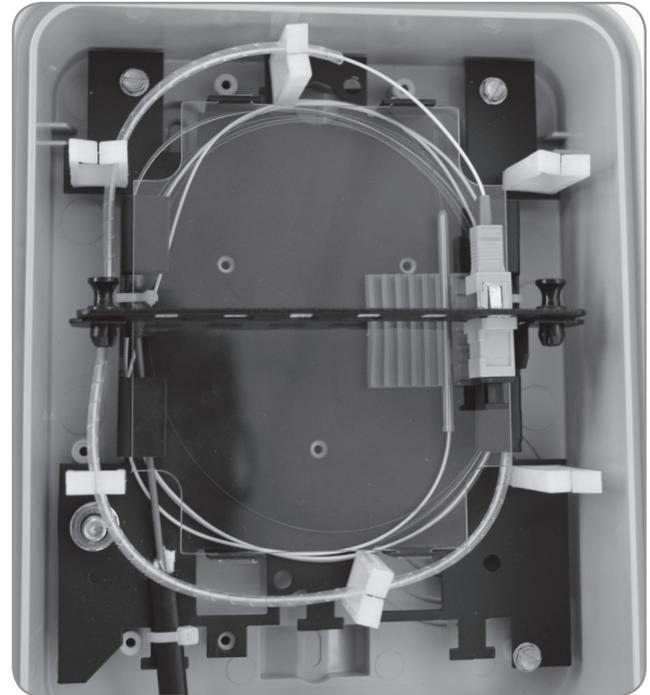

Figure 6
2. Route the pigtail assembly around the splice tray. Use the routing rings located on the outer edge of the tray to help manage the cable. (Figure 6)